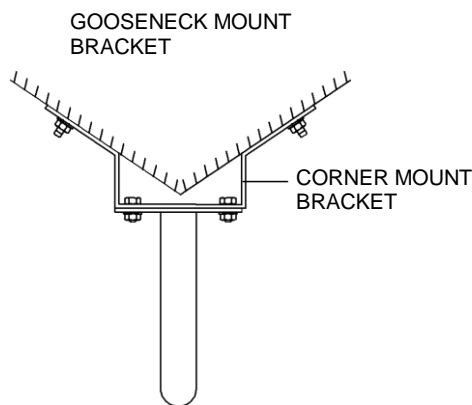
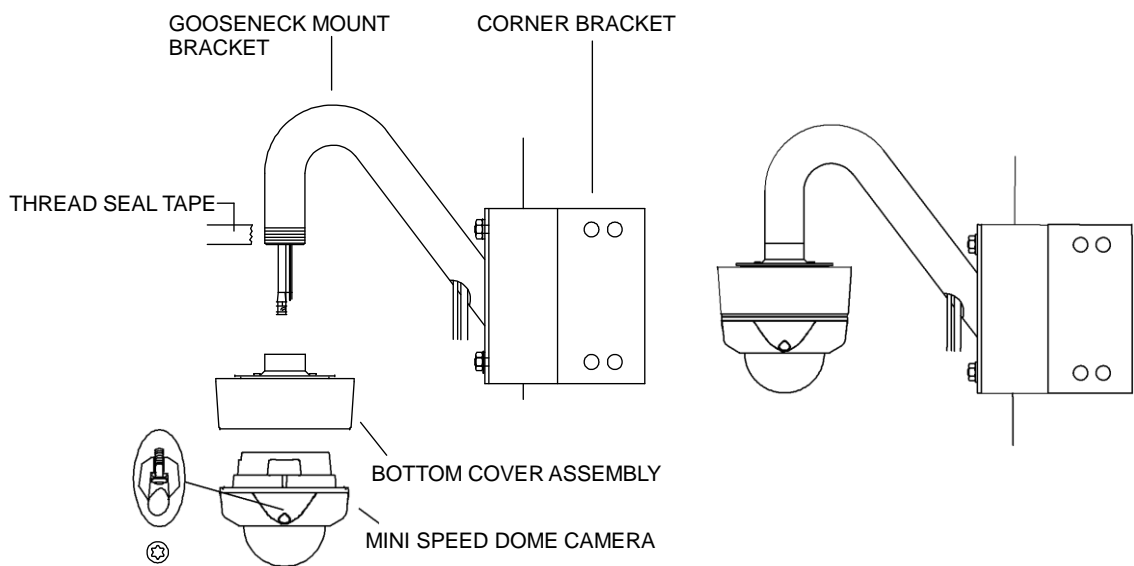

FIG. 23
FIG. 24
5. Screw the set anchor bolt of the bracket by nut on the wall. (FIG. 23)
6. After driving a bottom cover assembly to gooseneck mount bracket, as shown on FIG 23, assemble mini PTZ with bottom cover assembly. (FIG. 24)